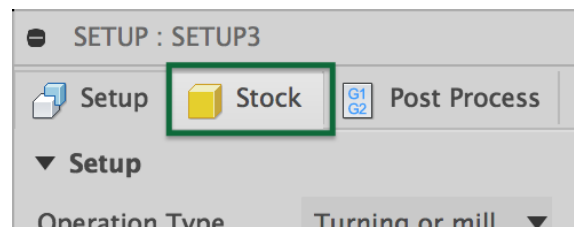

FIGURE 1.14: CHANGING THE SETUP SETTINGS TAB TO “STOCK.”
- Select the **Stock** tab, shown in Figure 1.14.